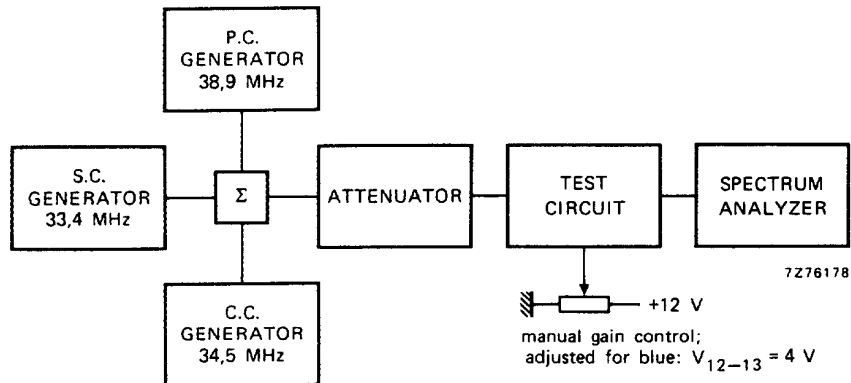

Fig.7 Test set-up for intermodulation measurements.
6. Measured in the circuit of Fig.7: